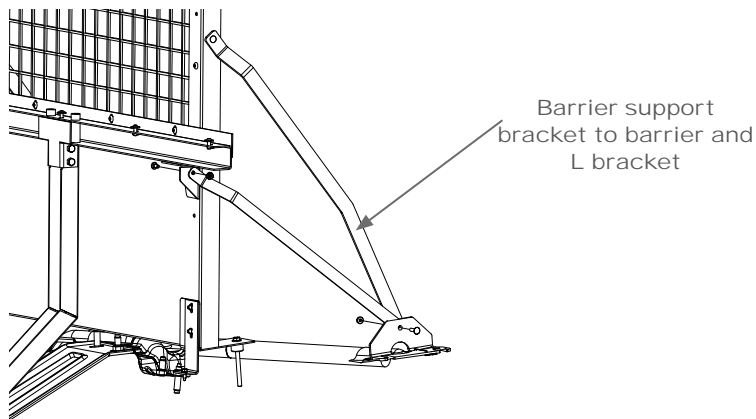

Fig. 6
D. Now the (3OSB4715-03) barrier support brackets can be attached to the cross bar and barrier. The (3X16Z) nuts in the rear cargo area can be removed and the support bracket installed with bolts at the lower cargo area and upper barrier holes. (See Fig. 6)